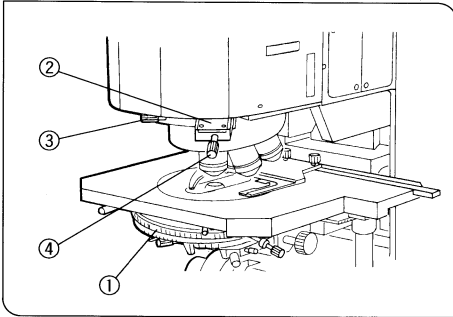
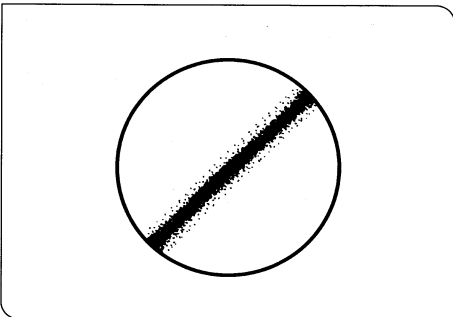
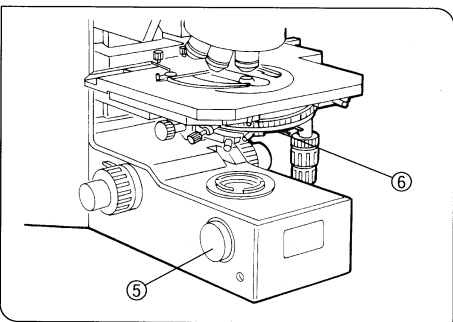

Fig. 57
Fig. 58
Fig. 59
1. Rotate the turret ① to combine the turret position with an interference prism matched with the objective to be used. (Fig. 57)
- a. Engage the transmitted light DIC slider (U-DICT) into the light path ② and tighten the clamping screw ③.
- b. Turn the turret ① and select the light path for BF brightfield observation (no optical element engaged into the light path).
- c. Rotate the prism control knob ④ of the DIC slider clockwise as far as it will go.
- f. As the polarizer rotation knob is turned, a black fringe will appear at a certain position. The polarizer should be rotated to the position where this black fringe is darkest. (Fig. 58)
6. Adjust the field iris diaphragm ring ⑤ until the diaphragm image circumscribes the field of view.
7. Stopping down the aperture iris diaphragm, using the lever ⑥, may increase the contrast somewhat. (Fig. 59)